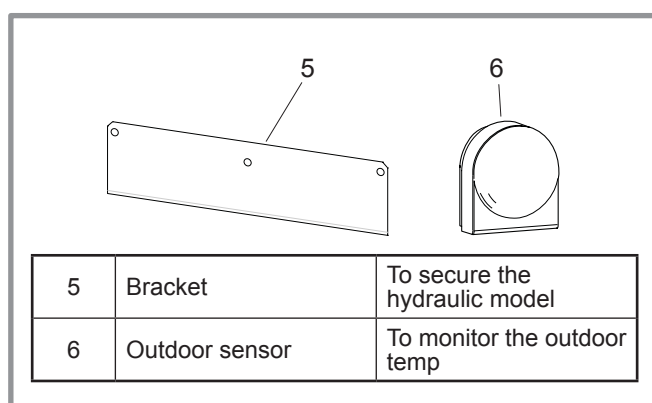

Figure 9 - Accessories provided with the hydraulic unit
- Accessories provided with the hydraulic unit (figure 9)